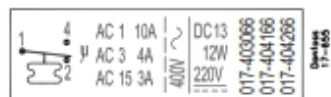

Fig. 4
See fig. 10. Contact load: see switch cover or fig. 4. E.g. marking 10 (4) A, 400 V ~ means that a max. load of 10 A ohmic and 4 A inductive may be connected on 400 V. The max. starting current on motor cutin (L.R.) may be up to seven times the inductive load, RT complies with conditions as specified in VDE* 0660, Test Class II. *VDE = Verband Deutscher Elektrotechniker